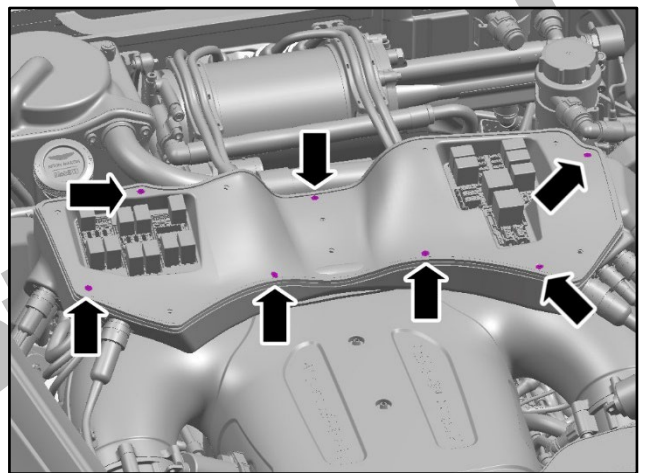

Figure 13
13. Install and torque the seven 9.53 mm screws to 5 Nm (refer to Figure 13).